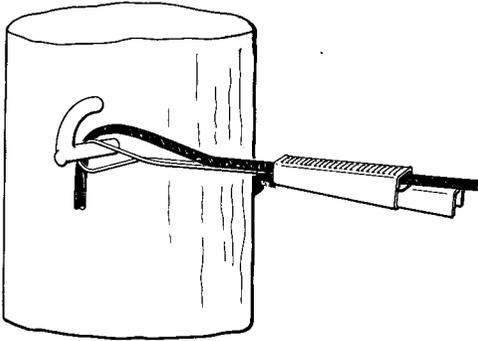

Fig. 7 — Completely Installed Drop Wire Clamp
2.07 A completely installed drop wire clamp is shown in Fig. 7.